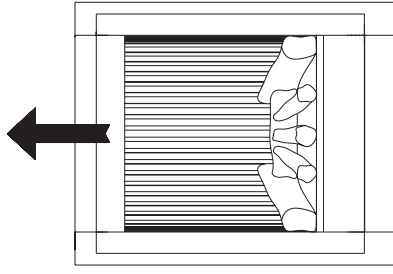

fig. 10
1. Remove the door frame. Lift and pull forward (see fig. 10).